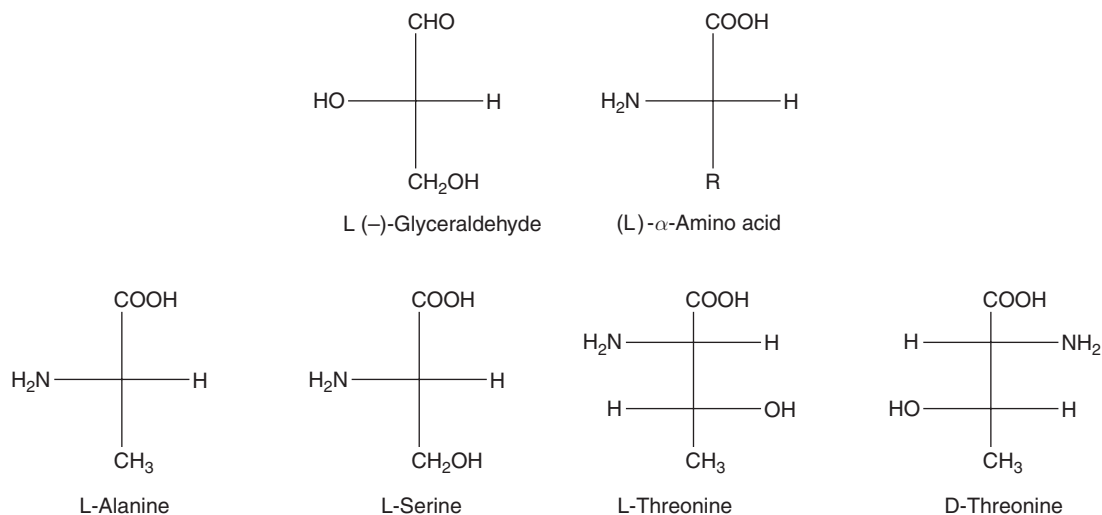

Figure 12 D- and L-series of amino acids.
2. **α-Amino acids:** The configurational arrangement of –NH₂, –COOH, –R and H at C_α correspond to –OH, –CHO, –CH₂OH and H of glyceraldehyde. Hence, looking at the relative positions of the –NH₂ group we can also characterize the amino acid as part of D or L series (Figure 12).